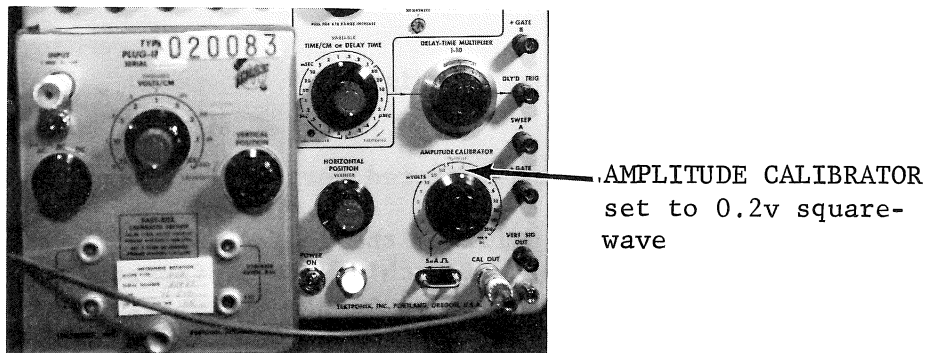

Figure 22
3. Connect a 0.2v square wave from the AMPLITUDE CALIBRATOR to the banana plug on the GAIN ADJUST ADAPTER. (See Fig.22)